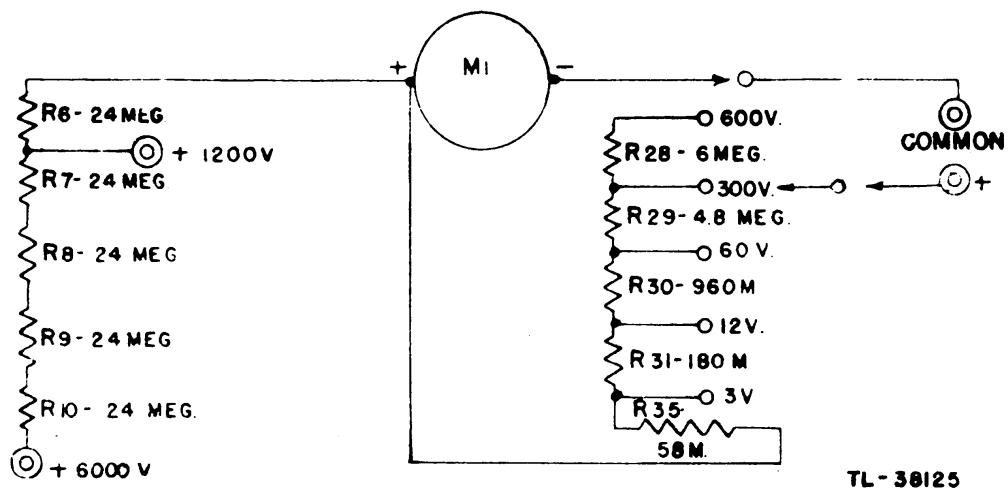

Figure 10. Test Set I-179, simplified D.C. volts circuit, 20,000 O.P.V.
14. TEST SET I-179 AS A D-C VOLTMETER, 20,000 OHMS PER VOLT (fig. 10).